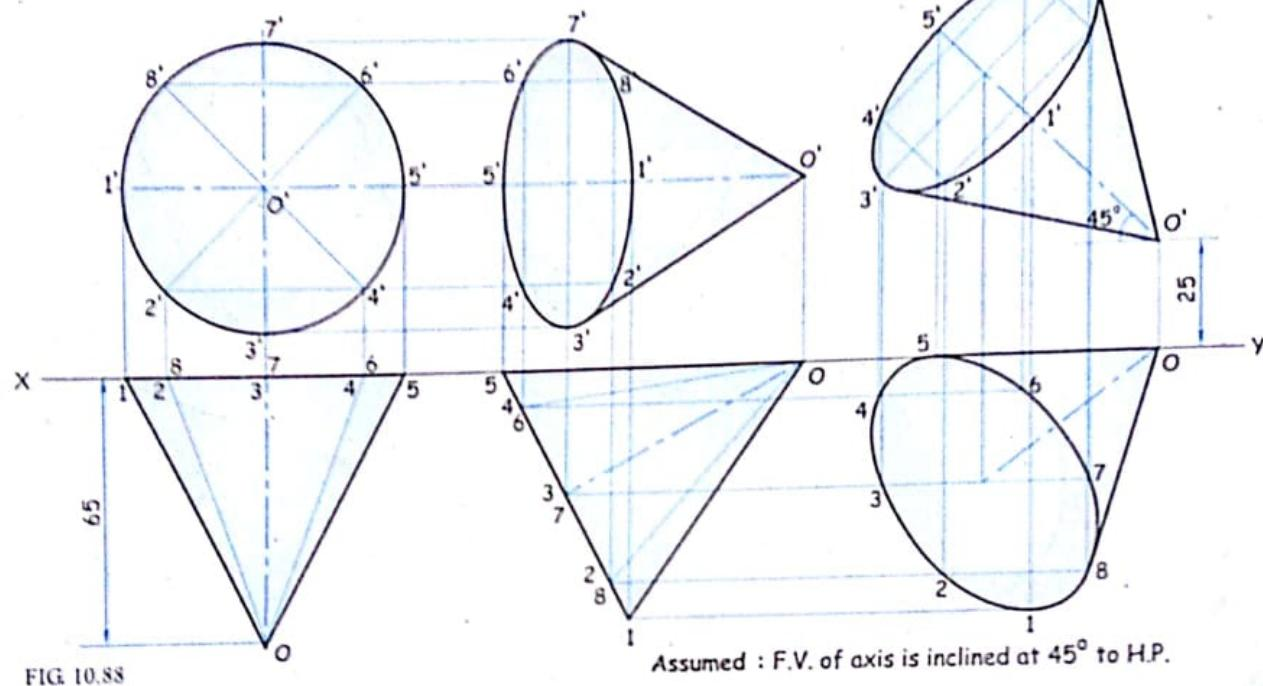

FIG. 10.88
**Solution :** Refer figure 10.88. It is self explanatory.